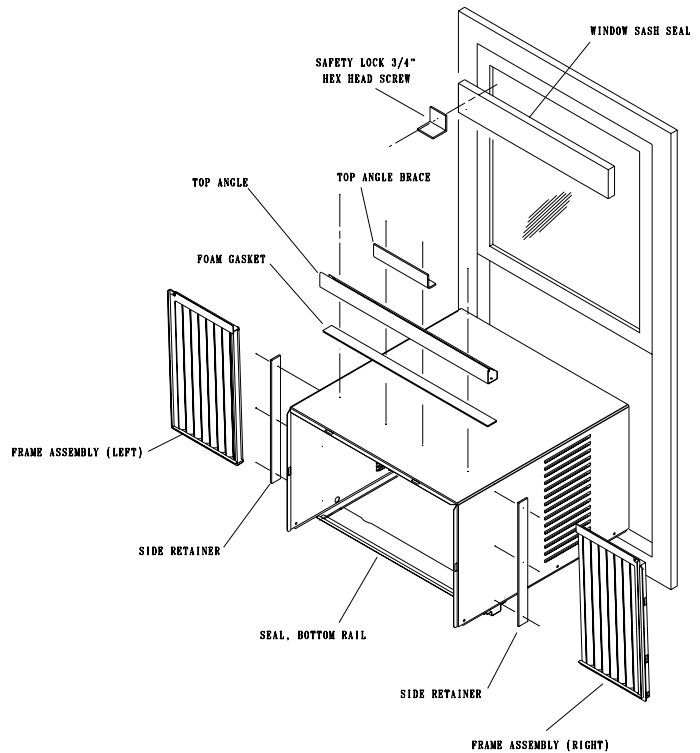

FIG. 1
- 1. Check window opening size** - the mounting parts furnished with this air conditioner are made to install in a wooden sill double-hung window. The standard parts are for a window opening of 30" (711 mm) minimum to 42" (1067 mm) maximum width. Open sash to a minimum of 19" (483 mm). (FIG. 1)